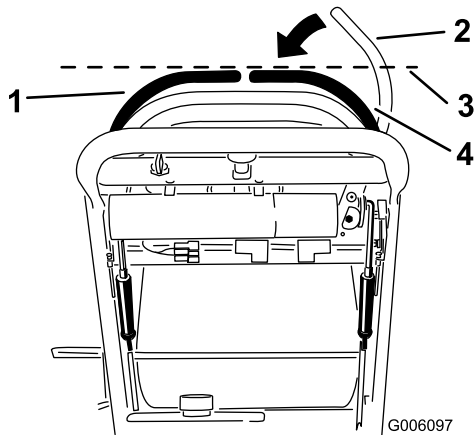

Figure 43
3. Push the right motion control lever down out of locked neutral position (Figure 43).
4. Check if it aligns horizontally with the left motion control lever (Figure 43).